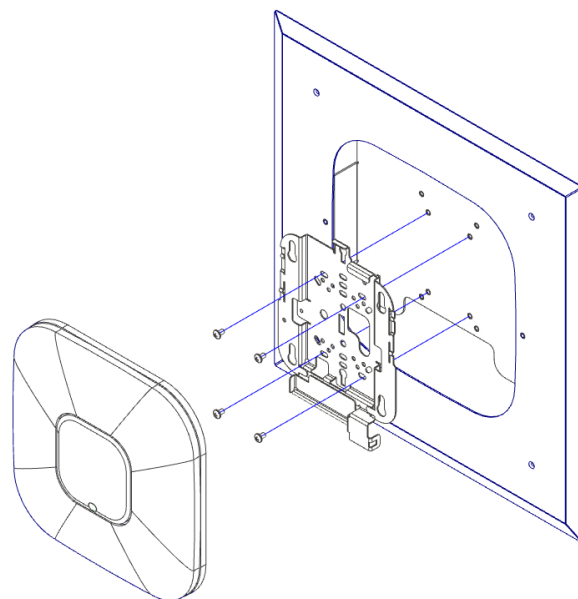

Figure 2 - Access Point and Bracket Attachment
**Step 4** - Fasten Cisco's AIR-BRACKET-2 to the mounting bracket (Figure 2). **NOTE:** Oberon's products designed are designed to accommodate Cisco AIR-AP-BRACKET-2. If you are using Cisco 1040,1140, 1260, or 3500 series access points, you will need to use the included standoffs to raise the AIR-AP-BRACKET-2 so that the seam of access point is flush with the trim or door. If you are using a Cisco 3600, 2700, or 3700 series access point, you will **not** need to use the standoff